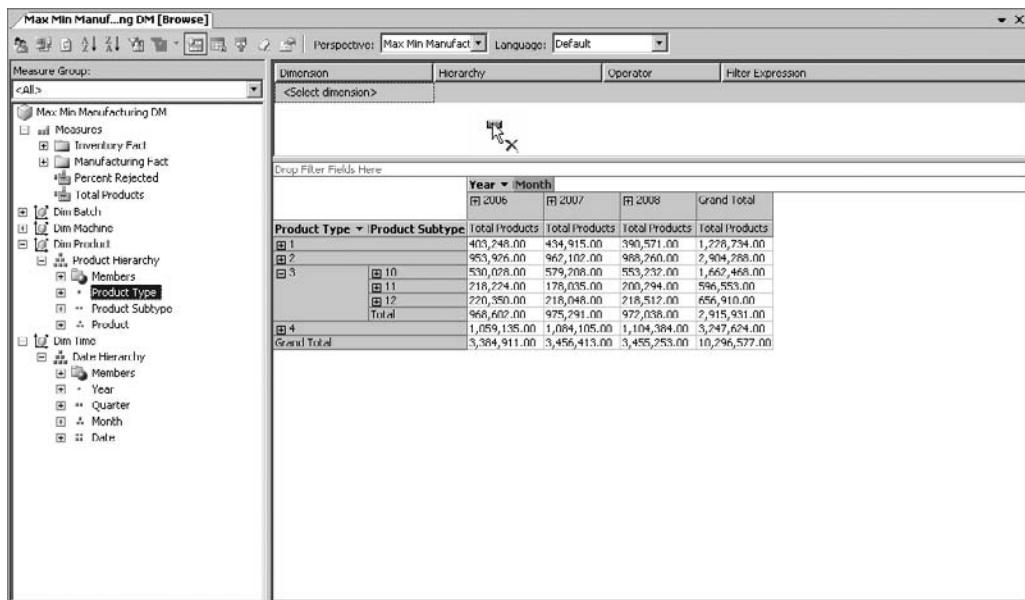

Figure 10-8 Dragging an item off the pivot table
18. Drag the Month heading off of the pivot table until the mouse pointer includes an *X*, as shown in Figure 10-8. Drop the heading any time the mouse pointer includes the *X*, and this dimension is then removed from the pivot table.